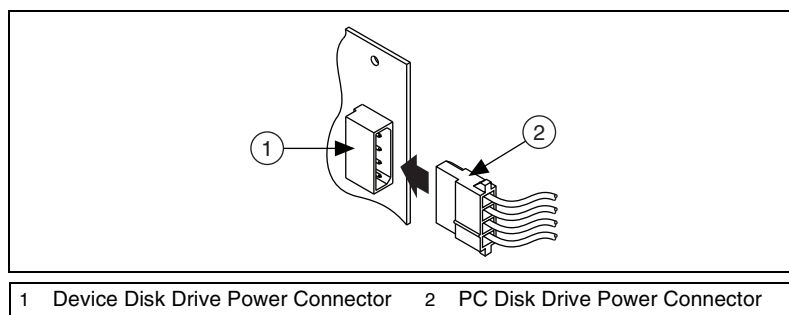

Figure 13. Connecting to the Disk Drive Power Connector
3. Attach the PC disk drive power connector to the disk drive power connector on the NI PCIe-6509, as Figure 13 shows.